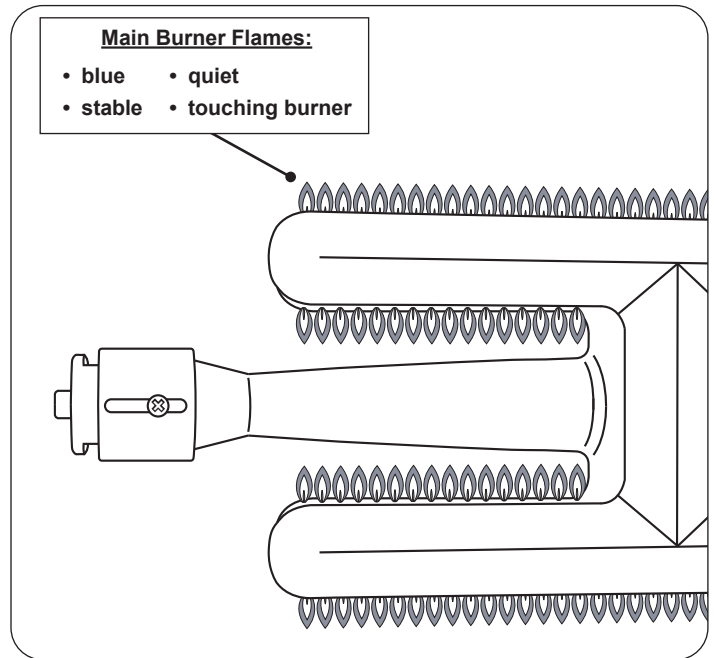

Fig. 47-1 Proper flame appearance
**Note:** To verify proper settings, the flames of the burners should be visually checked for proper flame appearance and behavior. Light the grill with the burner(s) on HI setting. Allow at least 2 minutes to burn. See below and Fig. 47-1. The flames should: